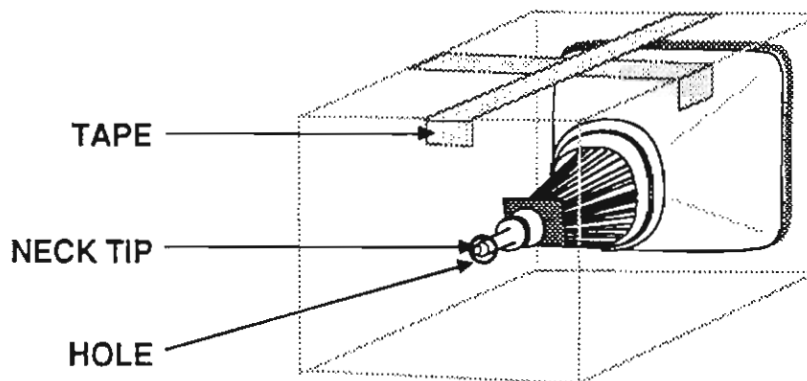

FIGURE 10
3. Place the CRT inside the box with the tip of the neck protruding through the hole, and tape the box flaps down with duct tape (Figure 10).